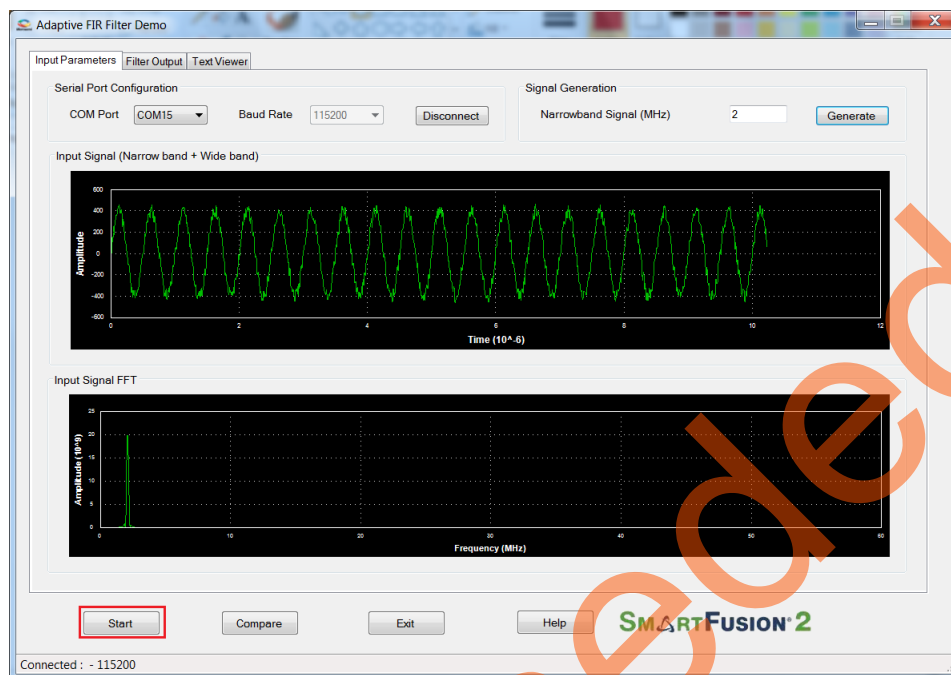

Figure 19 • Adaptive FIR Filter Demo - Start
- Click **Start** to load the input data (1K samples) to the SmartFusion2 device for processing the filtering operation, refer to Figure 19.